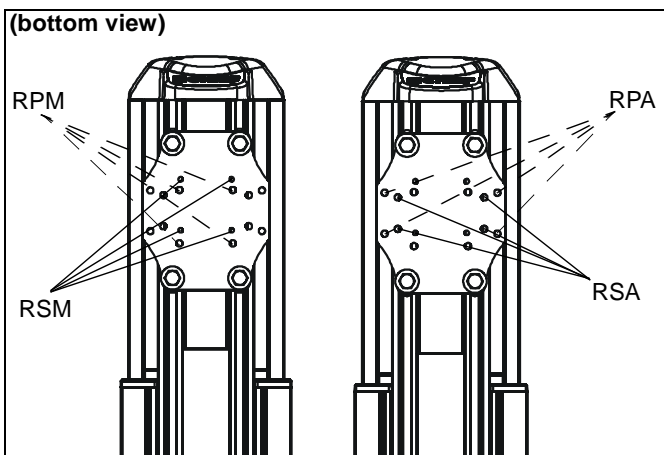

Figure 17
NOTE: Determine hole configuration to use for each specific projector mount. (See Figure 17)
1. Line up mounting holes on RPM mount with corresponding holes on projector mounting plate. (See Figure 17)
1. Line up mounting holes on RSM mount with corresponding holes on projector mounting plate. (See Figure 17)
1. Line up mounting holes on RPA mount with corresponding holes on projector mounting plate. (See Figure 17)
1. Line up mounting holes on RSA mount with corresponding holes on projector mounting plate. (See Figure 17)